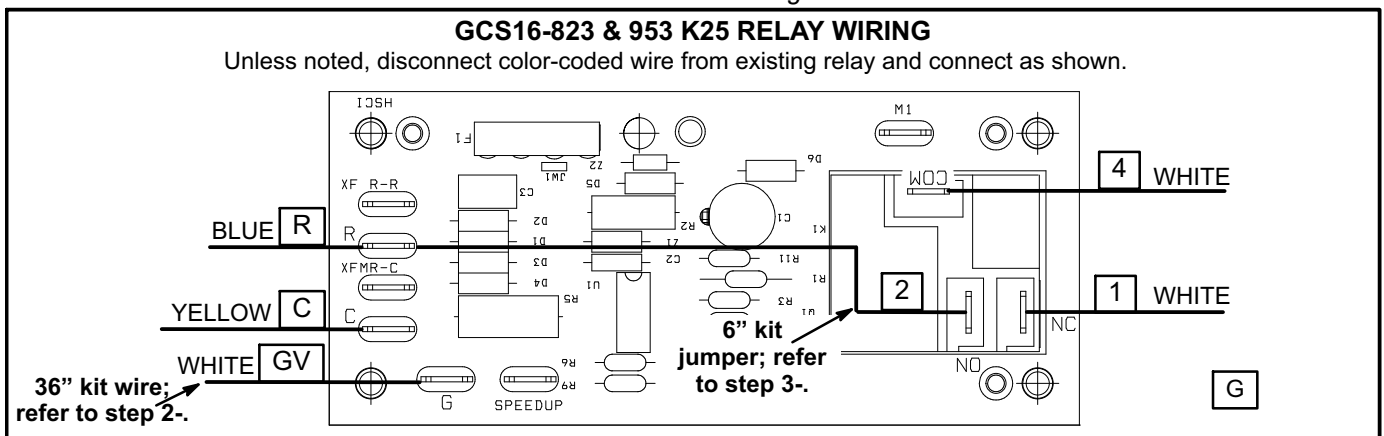

FIGURE 3
terminal or COM on replacement relay. See figure 3 through 8.
- 5- Remove color-coded wires from existing relay and connect to kit relay as shown in appropriate figure 3 through 10.